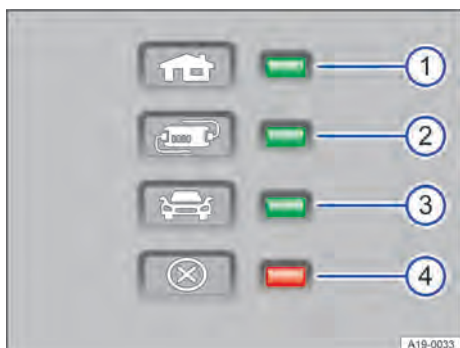

Fig. 167 Warning and indicator lamps on the protective device on the charging cable.
One or more indicator lamps on the safety device light up green → Fig. 167 ①, ② and ③.
If charging is interrupted, the current status indicator goes out and one of the indicator lamps flashes green. The warning lamp flashes red → Fig. 167 ④.
If you continue to charge the vehicle with the reduced charging current, the warning lamp flashes red → Fig. 167 ④ in addition to the status indicator. The charging cable must cool down for some time. The charging current will be increased again automatically.
If the warning lamp → Fig. 167 ④ flashes or lights up red without an indicator lamp → Fig. 167 ①, ② or ③ of the status indicator being lit continuously, there is a fault.